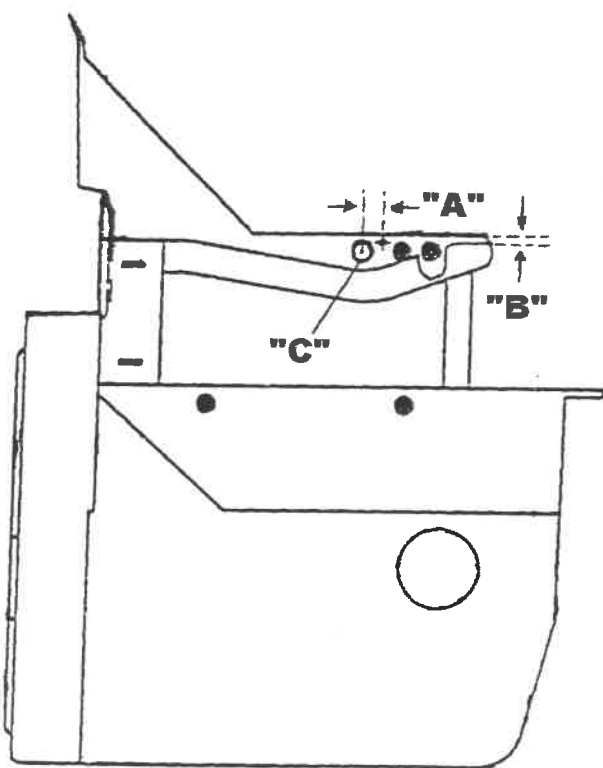

Figure 5
3. Locate the hollow end of the delivery door rod on the right end of the recovery unit (See "C", figure 5).
4. From the center of the delivery door rod, measure .480" (approximately 1/2") and draw a vertical line. (See "A", figure 5).
5. From the top edge of the recovery unit above the line drawn in step 4, measure .19" (approximately 3/16") and draw a horizontal line that is perpendicular (intersects) the line drawn in step 4. (See "B", figure 5).